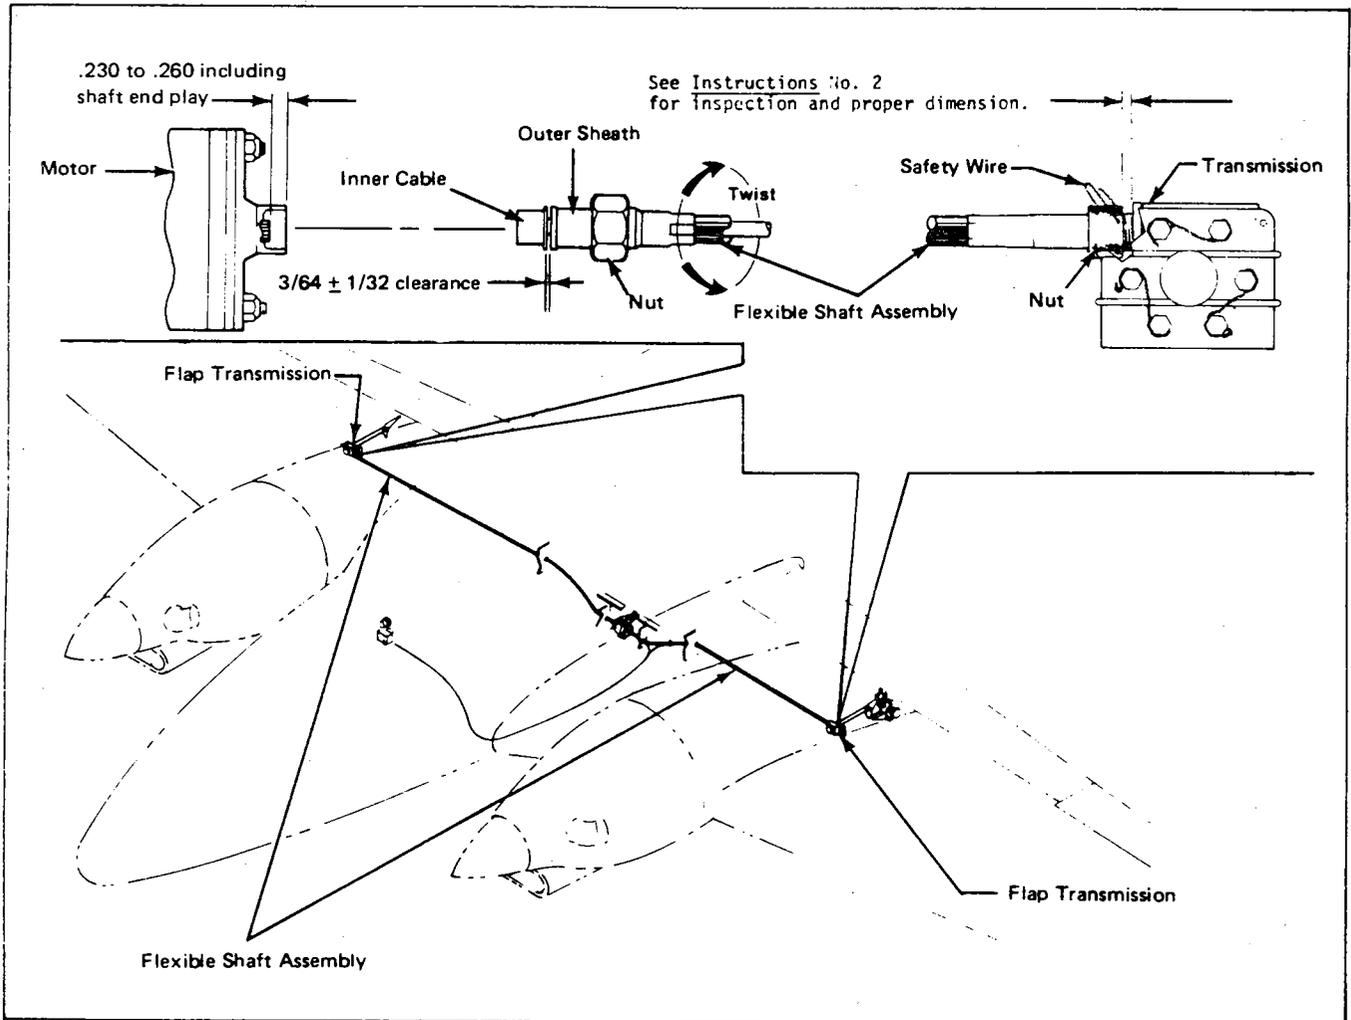

Figure 2. Wing Flap Actuator Cable
2. INSPECTION OF WING FLAP TRANSMISSION ACTUATOR SHAFT. (Refer to Figure 2.)
3. Twist outer sheath in proper direction (to lengthen or shorten), bringing clearance to  $3/64 \pm 1/32$  of an inch. It may be necessary to loosen clamp on fuselage bulkhead in order to twist outer sheath. (See Figure 2.)